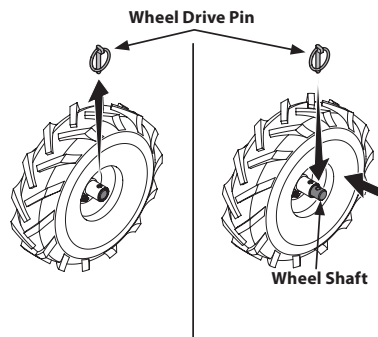

Figure 12
2. Remove the wheel drive pin from the wheel hub and wheel shaft. See Figure 12.
3. Slide the wheel fully inward on the wheel shaft. Reinstall the wheel drive pin through the wheel shaft only (not through the wheel hub). See Figure 12. The wheel should now spin freely (freewheel) on the wheel shaft. Repeat with the other wheel.